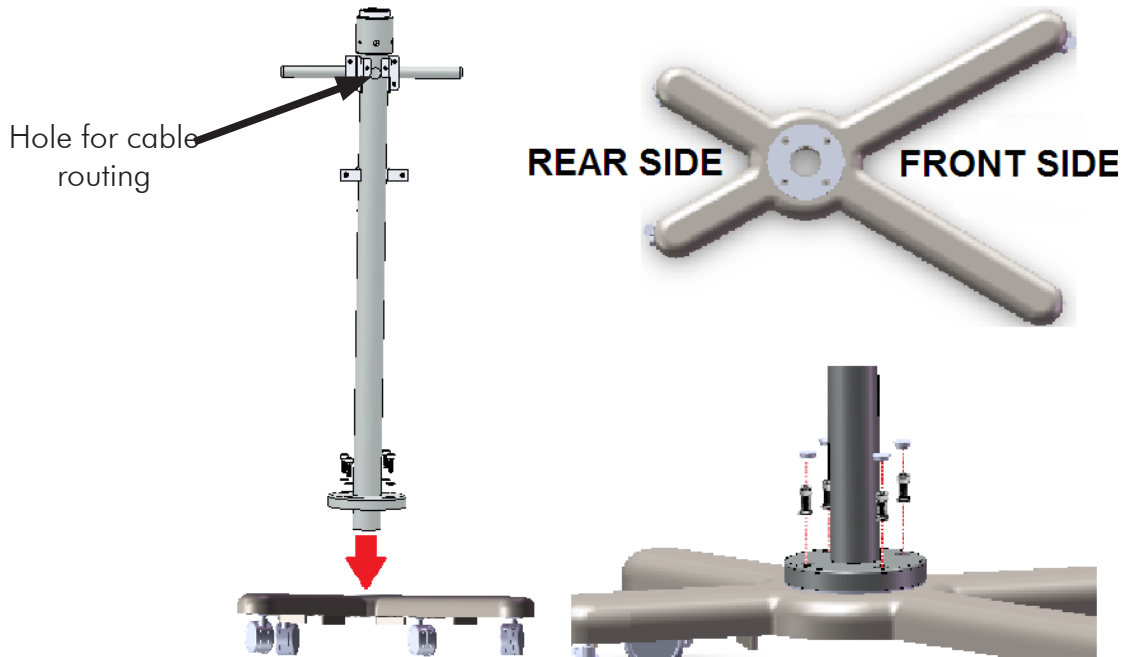

Figure 4
- Fix the base column on the base casting so that hole for cable routing on the base column should be aligned to the front side of the base casting as shown in Figure 4.
- Fix 4 M10x30 Hex Socket Head Cap screws along with M10 Spring washers using 8mm allen key and fix back 4 rubber caps at the screw locations as shown in Figure 4.